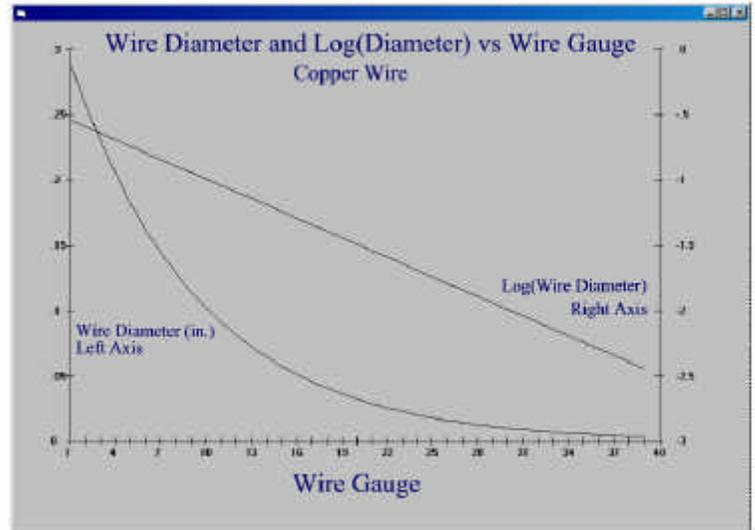

Figure 2
**Equations:** There is, however, a regular progression throughout the table. This can be seen in **Figure 2** where wire diameter and the Log10 of the wire diameter are graphed against wire gauge. The log of the wire diameter is an almost perfectly straight line. A curve fitted to this line has the following equation: